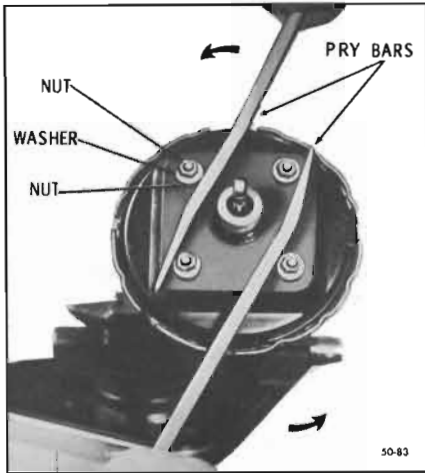

Figure 50-83—Separation of Front and Rear Shell
2. Remove rear retainer and boot and then reinstall nuts on rear shell studs. Scribe a line between front and rear shells. Using pry bars as shown in Figure 50-83,